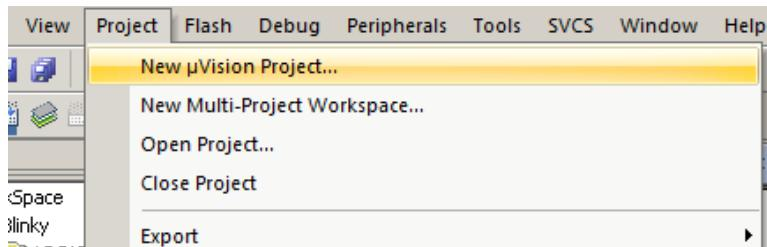

Figure 9.1: Keil IDE: Create a New Project
- Click Project → New uVision Project (See Figure 9.1).